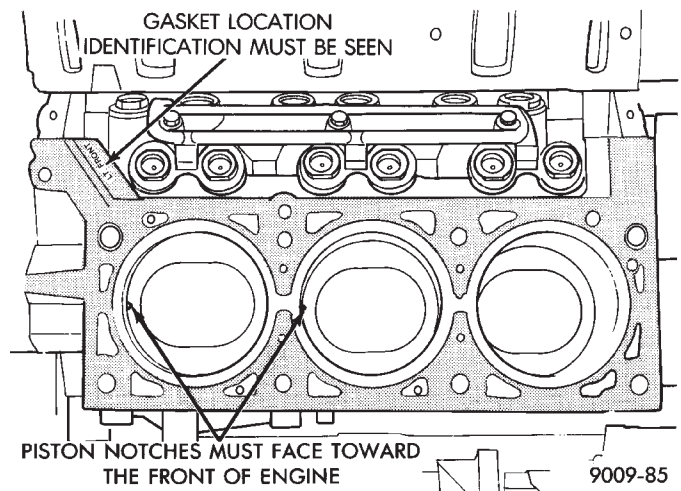

Fig. 15 Piston I.D. Notches
(5) Rotate crankshaft so that the connecting rod journal is on the center of the cylinder bore. Insert rod and piston into cylinder bore and guide rod over the crankshaft journal.
(6) Tap the piston down in cylinder bore, using a hammer handle. At the same time, guide connecting rod into position on connecting rod journal.
(7) The notch or groove on top of piston must be pointing toward front of engine (Fig. 15).
(8) Install rod caps. Install nuts on cleaned and oiled rod bolts and tighten nuts to 54 N•m (40 ft. lb.) Plus 1/4 turn.